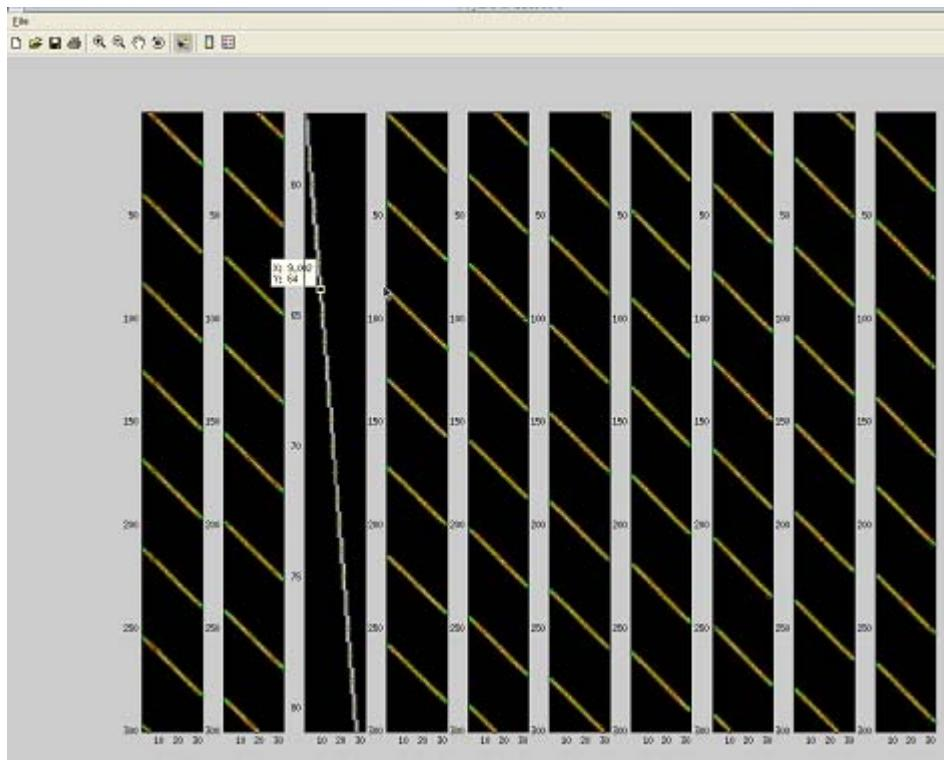

Figure 7-48
- g. Now, the terminal running the calibration tool is brought back to the front. Press “enter” key on the keyboard to continue the calculation. The tool should print out rmsError line by line while doing the calculation. After about 2 minutes, the calculation will finish with printed output and a colored projection image (Figure 7-48).